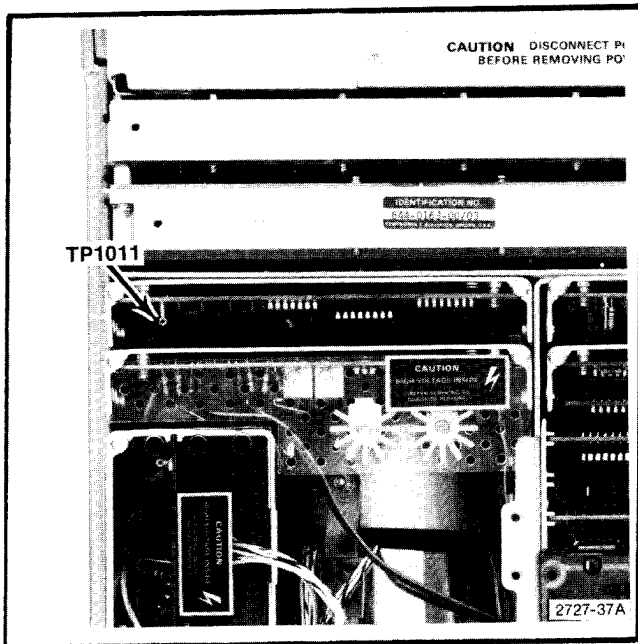

Fig. 3-26. Location of TP1101 on Crt Readout.
i. Change the test oscilloscope to Ext Trigger. Apply the Readout Off signal at TP1011 (Fig. 3-26), in the upper left corner of the crt readout board, to the test oscilloscope Ext Trigger input. Adjust the controls for a triggered sweep. Turn the 492/492P sweep off by activating SINGLE SWEEP, deactivate Digital Storage and ensure READOUT is on.